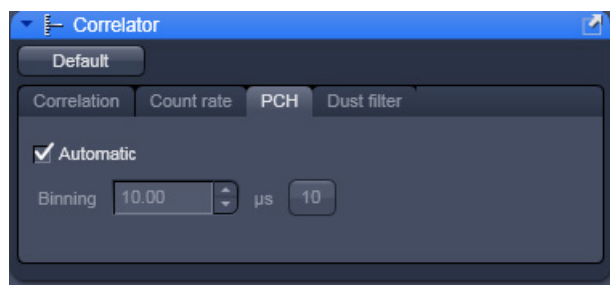

Fig. 293 Correlator tool - PCH active
- Click on the **PCH** tab to open the **PCH** panel (Fig. 293).